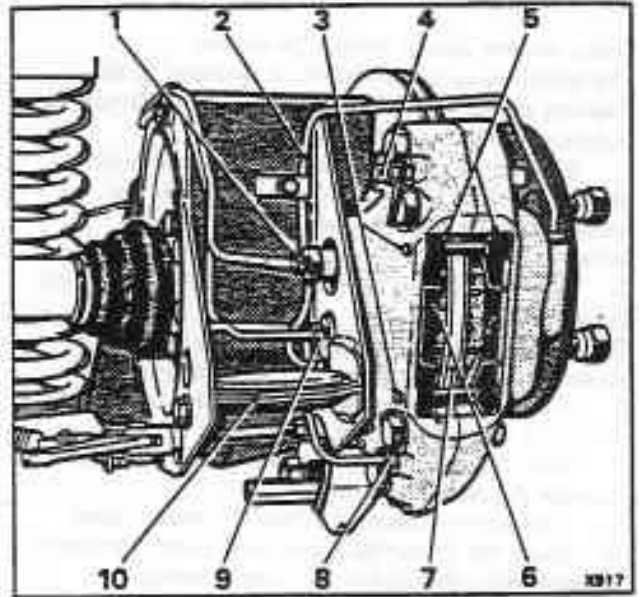

Fig. G16-3 Rear wheel brake caliper
Rear wheel brake pads - To renew (see figs.G16-3 and G16-4)
Rear wheel brake pads - To renew (see figs. G16-3 and G16-4)
3. Remove the spring clips from the two brake pad retaining pins (see fig. G16-3). Withdraw the pins. Collect the anti-rattle spring clips from the rear of each brake pad.
7. Fit the new pads by reversing the removal procedure, ensure that the pads slide freely. Ensure that the anti-rattle spring clips and pad retaining pin clips are correctly located (see fig. G16-3), heads of the retaining pins to be on the wheel side of the caliper.
Rear brake caliper - To remove (see figs. G16-3 and G16-4)